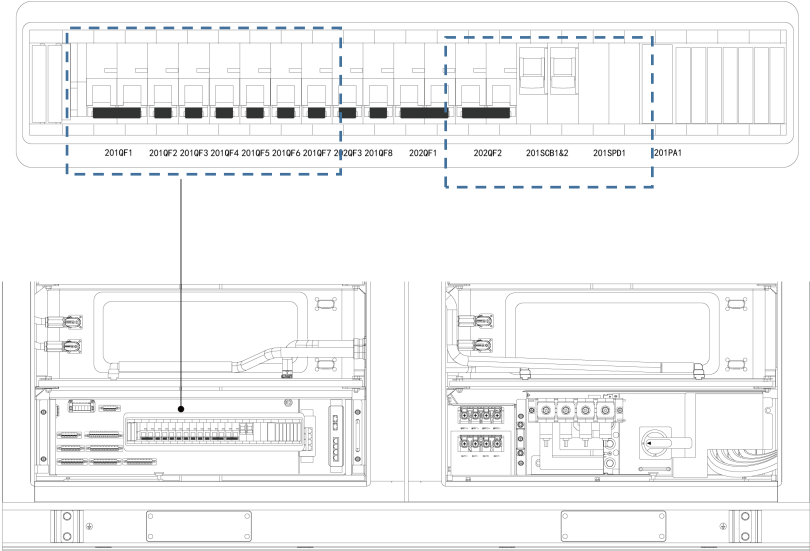
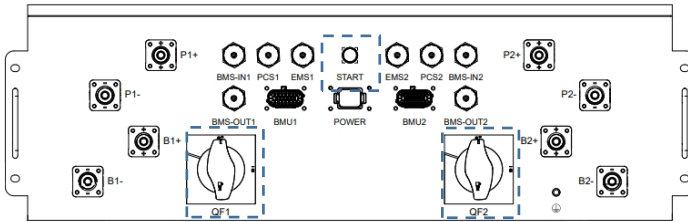

Figure 2
Figure 3
- ① Turn on the surge protection circuit breaker **201SCB1** and **201SCB2**. See the Figure.2.
- ② Attach to auxiliary power and external UPS. See the “How to position terminals related?” in the section 4.2.1. Verify that both the external AC auxiliary power input and the external UPS AC input voltages are within their specified normal ranges by utilizing a multi-meter.
- ③ Turn on the AC auxiliary power supply breaker **201QF1** and AC UPS breaker **202QF1**. See the Figure.2.
- ④ Turn on the lead-acid battery breaker **202QF3** and perform a vision inspection for the ring network switch by indicators' lighting up.
- ⑤ Turn on the PV power breaker **201QF2** after ensuring the voltage level of the external photovoltaic loop is within the normal range by utilizing a multi-meter. See the Figure.2.
- ⑥ Turn on the liquid cooling system breaker **201QF3**, DC auxiliary power breaker **201QF4**, fan breaker **201QF5** and dehumidifier breaker **201QF6**. See the Figure.2.
- ⑦ Press the **START** button, turn on the BAT MCCB **QF2** and **QF1** on the DC PDU. See the Figure.3. Measure the 24V DC voltage at the input of 202QF2, and verify the high-voltage box, battery pack power supply, and communication status. If all are normal, turn the DC auxiliary power breaker **202QF2**. See the Figure.2.